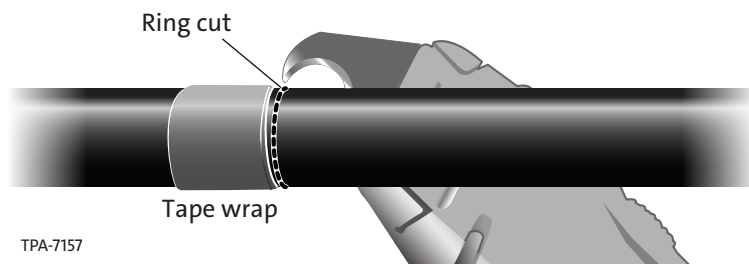

Figure 13
**NOTE:** *Do not cut into fibers when using a hook blade (Figure 13)*